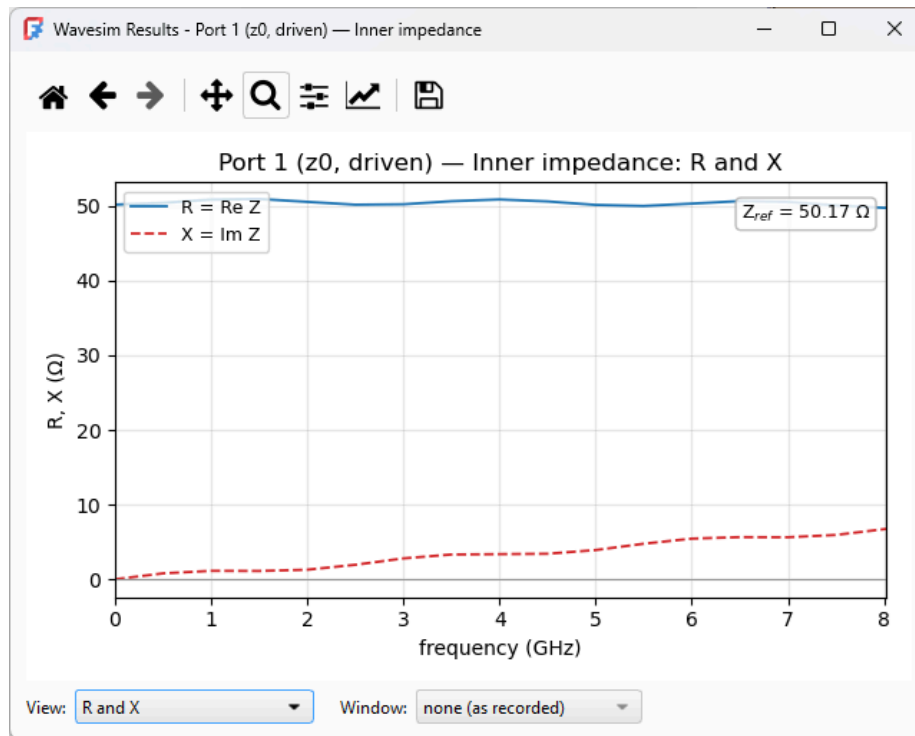

Figure 10.3: The coax impedance in the R and X view.
- **R and X** — real and imaginary parts on one linear axis (Figure 10.3). The lumped content is easy to read here: a series inductance appears as the straight line $X = 2\pi fL$, and a zero crossing of X marks a resonance.
A modal port's impedance plot has a dotted guide line and a corner label at the port's **reference impedance** Z_{ref} , the Z_0 of its mode (Section 8.3), so the departure of the measured $Z(f)$ from it can be read directly. In Figure 10.3, R lies on the 50.17 Ω line across the band.